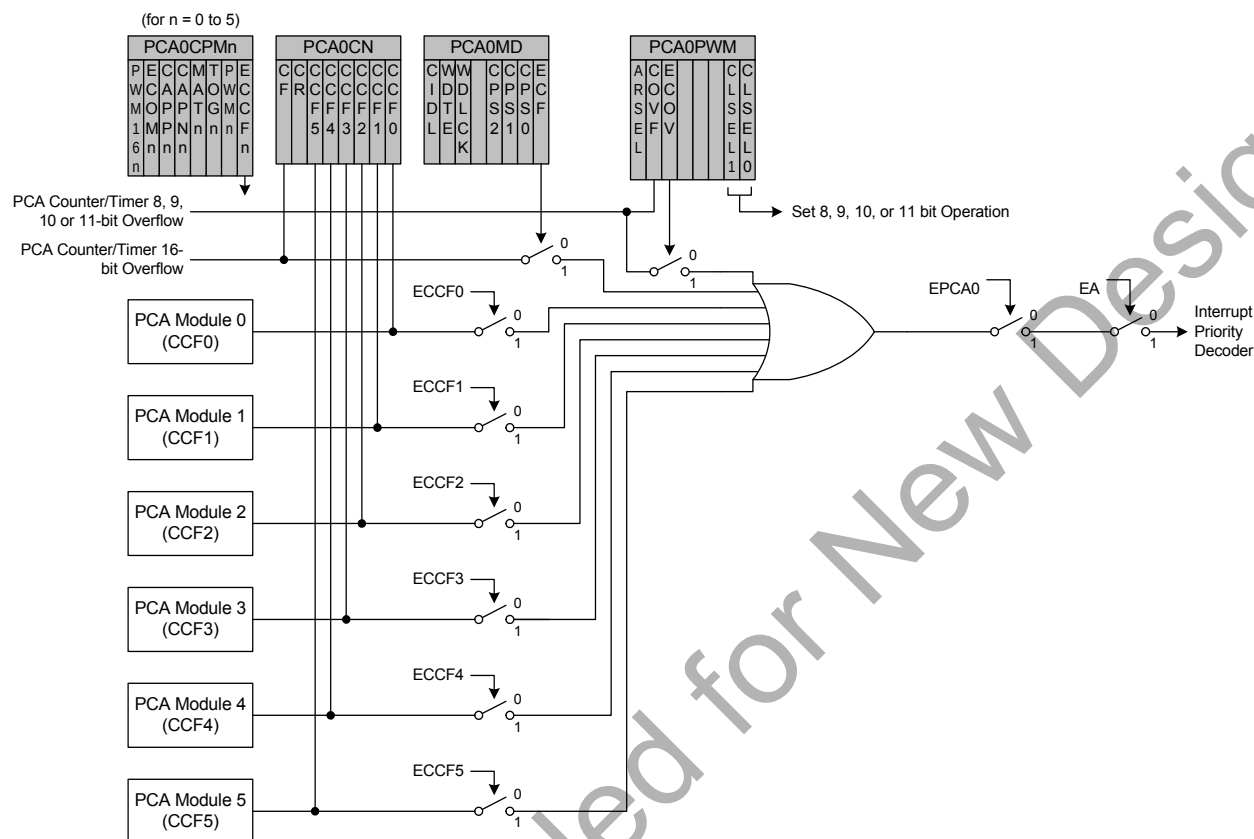

**Figure 34.3. PCA Interrupt Block Diagram**
Figure 34.3 shows a diagram of the PCA interrupt tree. There are eight independent event flags that can be used to generate a PCA0 interrupt. They are: the main PCA counter overflow flag (CF), which is set upon a 16-bit overflow of the PCA0 counter, an intermediate overflow flag (COVF), which can be set on an overflow from the 8th, 9th, 10th, or 11th bit of the PCA0 counter, and the individual flags for each PCA channel (CCF0, CCF1, CCF2, CCF3, CCF4, and CCF5), which are set according to the operation mode of that module. These event flags are always set when the trigger condition occurs. Each of these flags can be individually selected to generate a PCA0 interrupt, using the corresponding interrupt enable flag (ECF for CF, ECOV for COVF, and ECCFn for each CCFn). PCA0 interrupts must be globally enabled before any individual interrupt sources are recognized by the processor. PCA0 interrupts are globally enabled by setting the EA bit and the EPCA0 bit to logic 1.